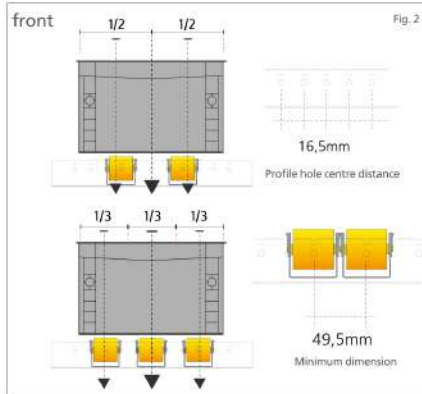

Fig. 2
The starting point for the roller bed, noted as "QP", is noted in figure 2. This point is created by an Inside Frame T Section Support Bar which acts both as a roller bed support and an end stop for the totes. The height pitch of this component is not in line with the standard Super 1-2-3 beam pitch as can be seen in the figure. The QP point has an offset of 55mm, the roller bed surface is set at 37mm above the QP point.
- 2) Placing each roller profile equidistantly under the totes so that each profile is loaded equally (figure 2). Considering that the minimum pitch between roller profiles is 49.5mm (which can be increased by 16.5mm increments);